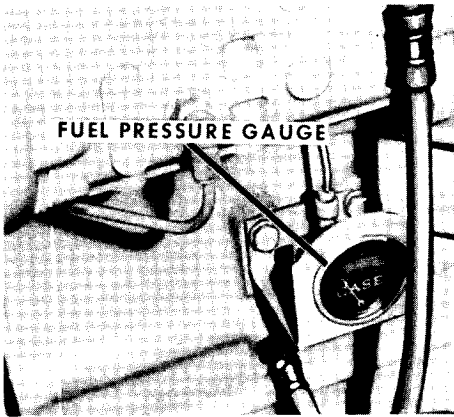

Figure 25
**FUEL PRESSURE GAUGE** - Figure 25. The gauge indicates the condition of the Fuel Filters. When the needle is in the Green Zone the filters are in good condition.